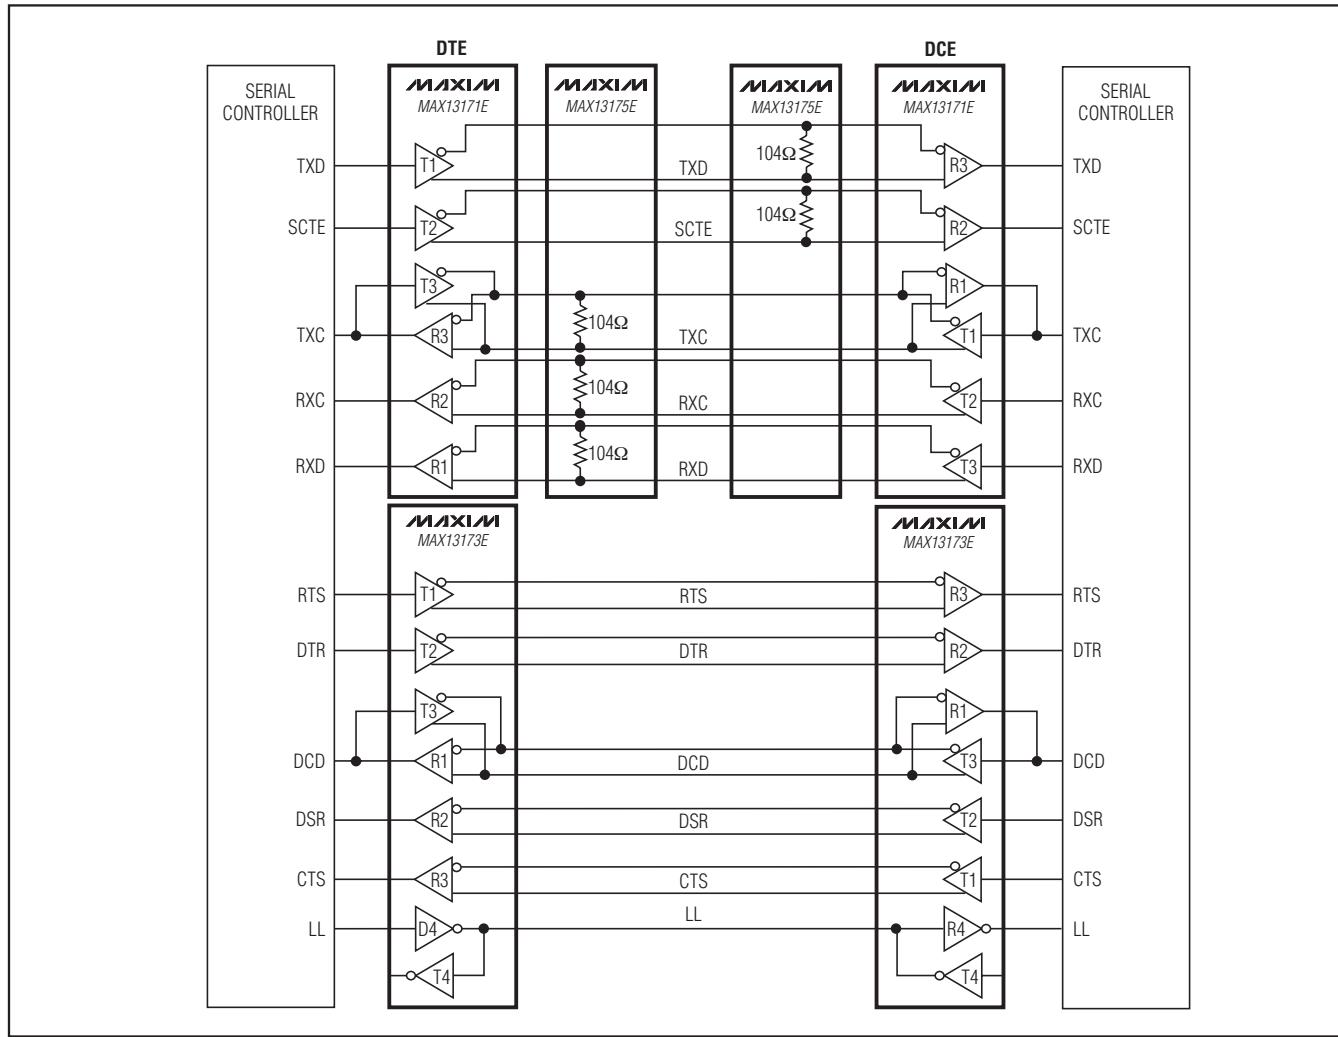

Figure 30: DCE-to-DTE X.21 Interface
A complete DTE-to-DCE interface operating in X.21 mode is shown in Figure 30. The MAX13171E is used to generate the clock and data signals, and the MAX13173E generates the control signals and local loopback (LL). The MAX13175E is used to terminate the clock and data signals to support the V.11 protocol for cable termination. The control signals do not need external termination.